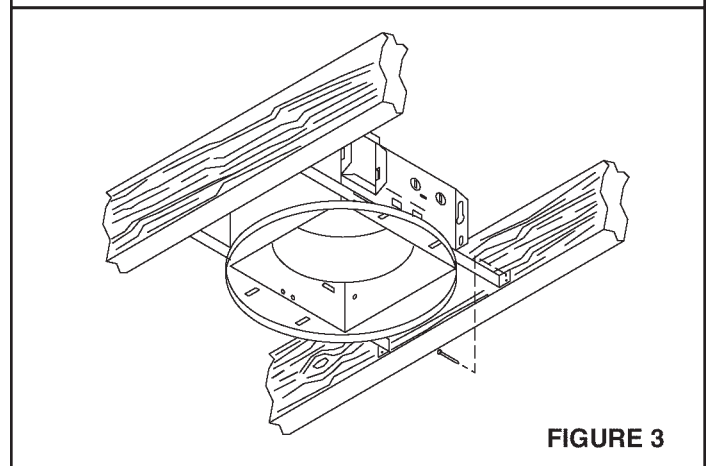
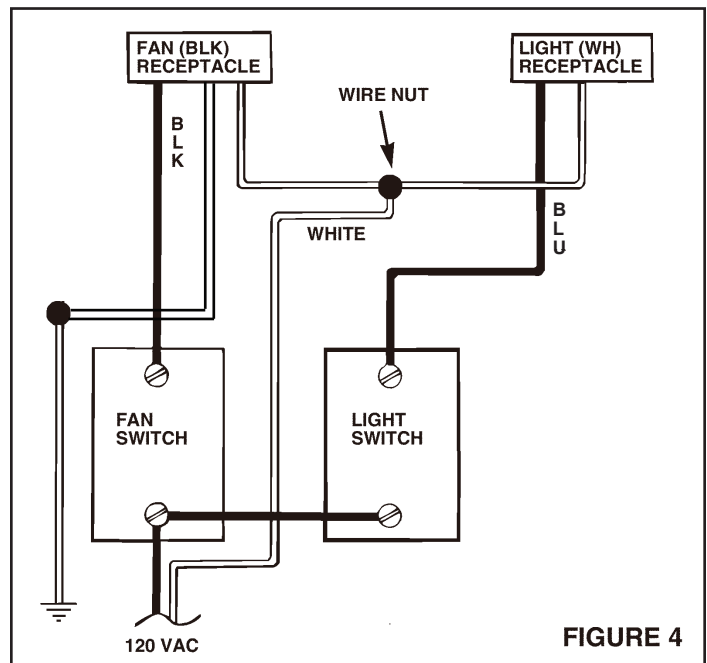

FIGURE 3
FIGURE 4
Refer to Figure 3.
4. Refer to Figure 4. Connect white wires from the fan and light receptacles to white (neutral) wire from the supply. Connect black wire from fan receptacle (black) to wire from fan switch. Connect blue wire from light receptacle (white) to wire from light switch.
WIRING AND DUCTING: Plan ducting and wiring BEFORE proceeding with installation. Refer to Figures 4 and 5 for wiring and Figure 3 for ducting.